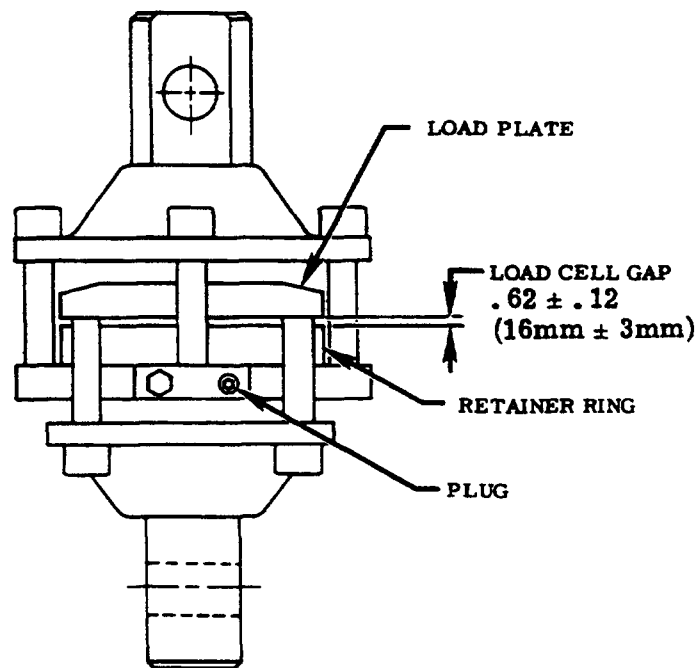

Figure 4-2. Load Cell Gap and Plug
4.05 HYDRAULIC FLUID ADDITION. The system must be kept full of hydraulic fluid at all times to accurately indicate hoisted weight. A quick check for adequate fluid in system is the gap between the load cell load plate and retainer ring. (Refer to Figure 4-2 for gap location and size).
- j. Loosen load cell plug (Figure 4-2).
- m. Pump enough fluid into system to achieve gap in load cell (Figure 4-2).
- c. Check load cell for proper gap (See Figure 4-2).